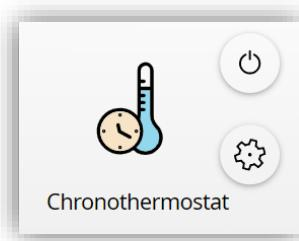

Figure 115. Chronothermostat box
- **Enablement [0 = Disable; 1 = Enable / 0 = Enable; 1 = Disable]**: selects the polarity of the control object "[Ci] Chronothermostat: Enable", which will enable or disable the chronothermostat analogously as from the on-screen switch button of the box (see Figure 115). The box configured as a chronothermostat control looks as follows: